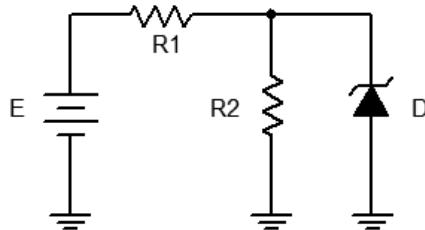

Figure 2
4. Consider the circuit of Figure 2 using $R_1 = 2.2 \text{ k}\Omega$ and $R_2 = 4.7 \text{ k}\Omega$. In general, to analyze circuits like this, first assume that the Zener is out of the circuit and then compute the voltage across R_2 using the voltage divider rule. If the resulting voltage is less than the Zener potential then the Zener is
5. Build the circuit of Figure 2 using $R_1 = 2.2 \text{ k}\Omega$ and $R_2 = 4.7 \text{ k}\Omega$. Set E to 2 volts. Compute the theoretical diode voltage and current, and record them in the first row of Table 2. Then measure the diode current and voltage and record in Table 2. Finally, compute and record the deviations.